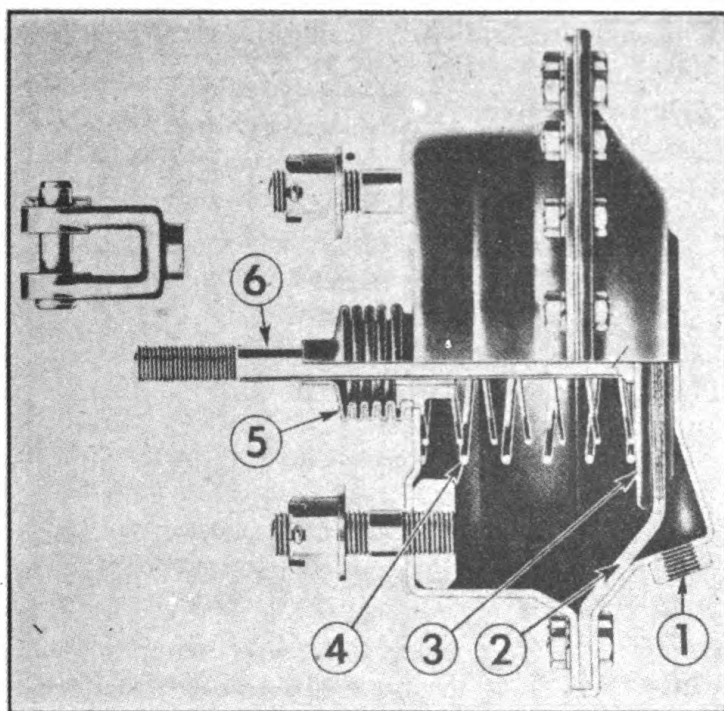

FIGURE 28. BRAKE CHAMBER
11. **BRAKE CHAMBERS** (Figure 28).—*a.* This trailer is equipped with two brake chambers on front axle. They are interchangeable.
b. Function.—The function of the brake chamber is to convert the energy of compressed air into the mechanical force necessary to expand the brake shoes against the brake drum and apply the brakes. Air pressure from relay emergency valve enters port (1) behind the flexible diaphragm (2). The force developed moves the flexible diaphragm, moves the push plate (3) and attached push rod (6), so as to rotate the brake cam and apply the brakes.
c. Adjustment.—(1) The stroke of the brake chamber push rod is limited, therefore, the brake must be adjusted (see Brake Minor Adjustment) to keep the push rod stroke within the correct limits. The stroke should never be permitted to exceed $1\frac{3}{4}$ " and when the brakes are adjusted, the stroke should be as short as possible without the brakes dragging. This minimum stroke is usually about $\frac{3}{4}$ ".